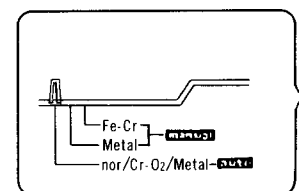

Fig. 27
- When the tape used is provided with metal tape mode detection hole, set the tape selector located at the back of the set to auto position (fig. 27).
- Set the tape selector located at the back of the set to auto position (fig. 27).
- When the tape used is provided with CrO₂ tape mode detection hole, set the tape selector located at the back of the set to auto position (fig. 27).
- When the tape used is not provided with the CrO₂ tape detection hole, set the tape selector to auto position and, as shown in fig. 27, pull out the 6 pin socket-, and short-circuit the terminal of the 6 pin post- as shown in fig. 30, then the circuit is set to CrO₂ mode.